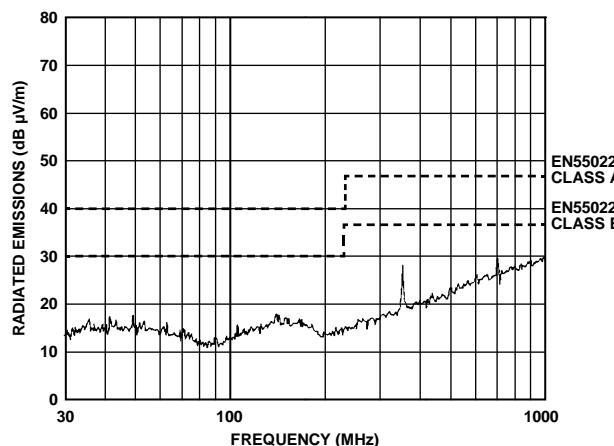

Figure 4. Horizontal Scan from 30 MHz to 1000 MHz (Corresponds to Worst Case for Table 4)
The **EVAL-ADM2582EEBZ** and **EVAL-ADM2587EEBZ** evaluation boards are configured and tested with 3.3 V  $V_{CC}$  or 5.0 V  $V_{CC}$  power supplied to the **ADM2582E** and **ADM2587E** devices, with the power supplied from the **ADP667ARZ** regulator output to  $V_{CC}$  (Pin 8). The **ADP667ARZ** regulator input is supplied from a standard 9 V battery. All EN55022 radiated emissions testing is performed with 9 V batteries. Testing is performed at a 500 kbps clock (**ADM2587E**) or 16 Mbps clock (**ADM2582E**), with the clock supplied by the on-board oscillator. The **ADM2582E/ADM2587E** transceiver is connected in full-duplex mode and the bus pins are loaded with a 60  $\Omega$  termination resistor. Measurements are carried out in a semi anechoic chamber at 10 m from 30 MHz to 2 GHz. Figure 4 to Figure 7 show the results of the worst case horizontal scans, and Table 4 to Table 7 show the tabulated quasi-peak (QP) results.